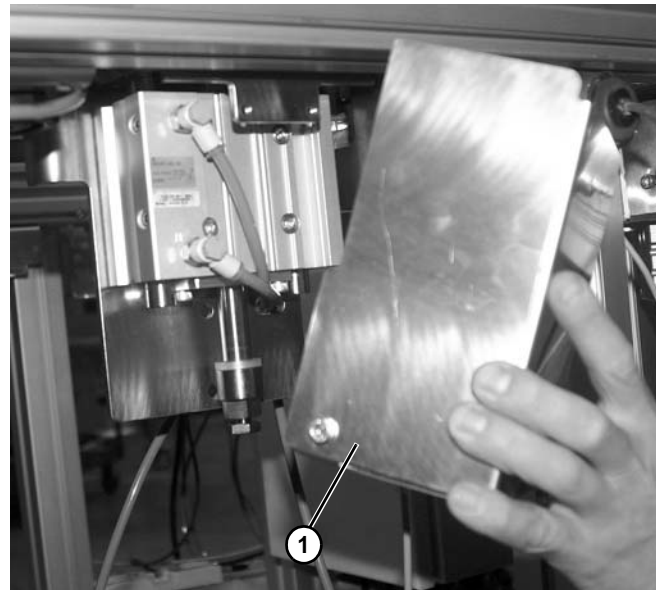

Figure 19
3. Lower cylinder guard (Figure 19, item 1) from around cylinder assembly.